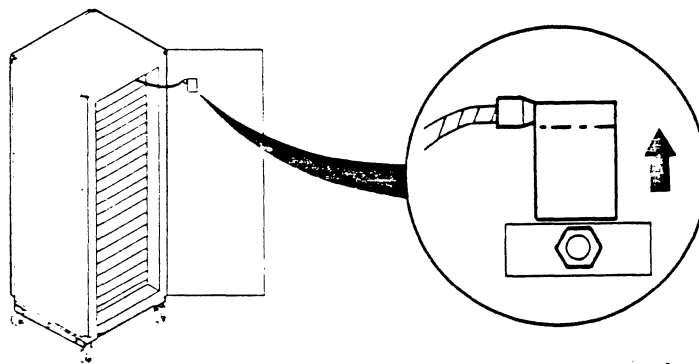

Figure 6-2. View of Ground Wire Location on Rear Door
- a. Open the rear door and disconnect the ground wire (Figure 6-2).